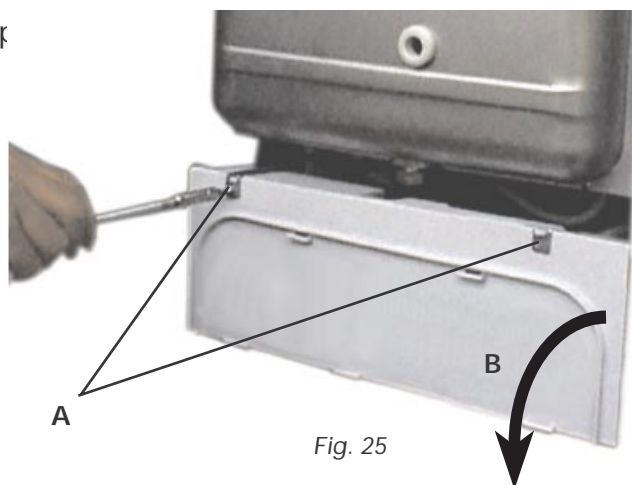

Fig. 25
### 7.03 To lower the control panel (fig. 25)
- Remove the two fixing screws (fig. 25) "A"